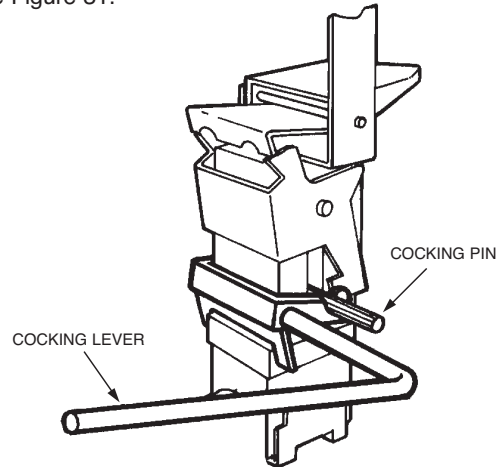

FIGURE 31
- ▶ 10. Insert cocking lever (Part No. 14995 or Part No. 435603) on left side of the release mechanism, with the movable flange resting securely against the corner of the cartridge receiver and spring housing, and with the notched lever portion engaging the cocking pin on **both** sides of the release mechanism. See Figure 31.